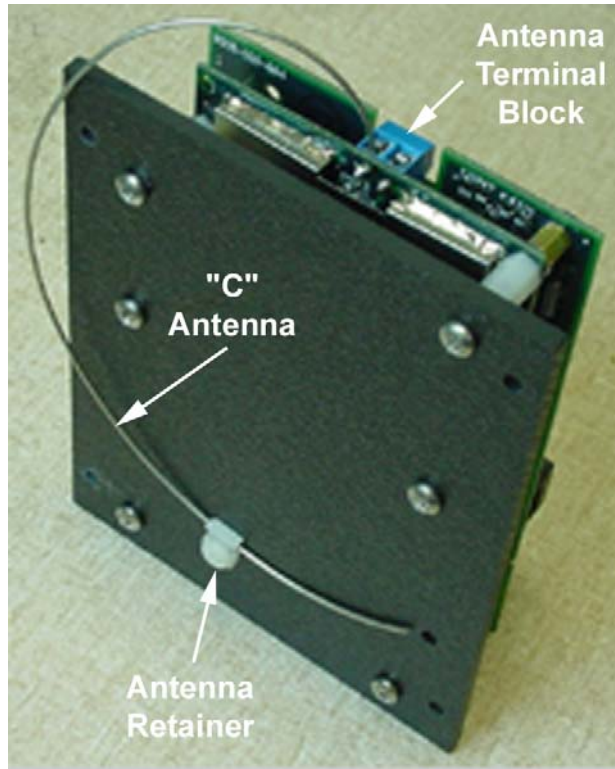

Figure 5-8 – Removing the PIM's Internal "C" Antenna
- 5.7.2 Remove the PIM's internal "C" antenna by loosening the screw on the Antenna Terminal Block and gently pulling the antenna out of the Antenna Retainer (Figure 5-8).